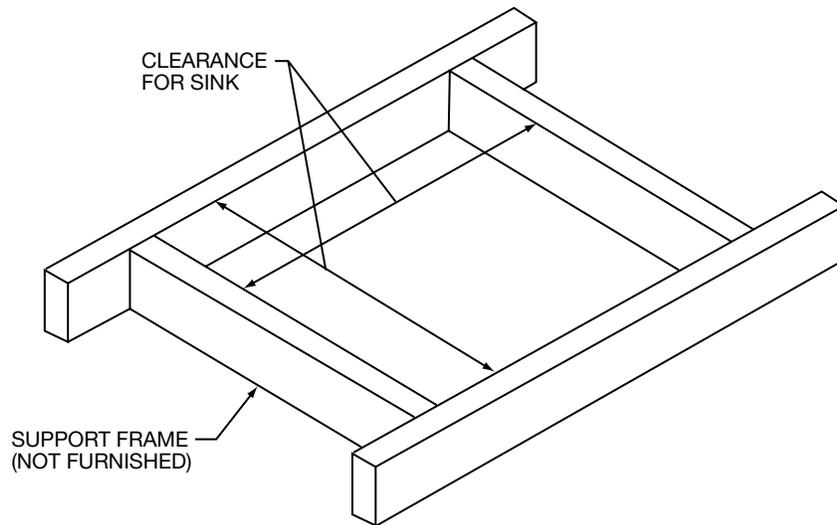
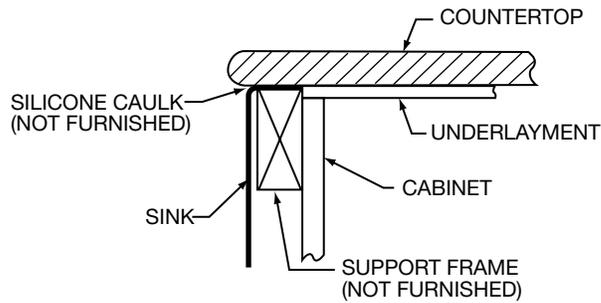

FIGURE 2
FIGURE 3
- It is required that a support frame be constructed inside the cabinet for adequate support of the sink as shown in Figure 2 and Figure 3.